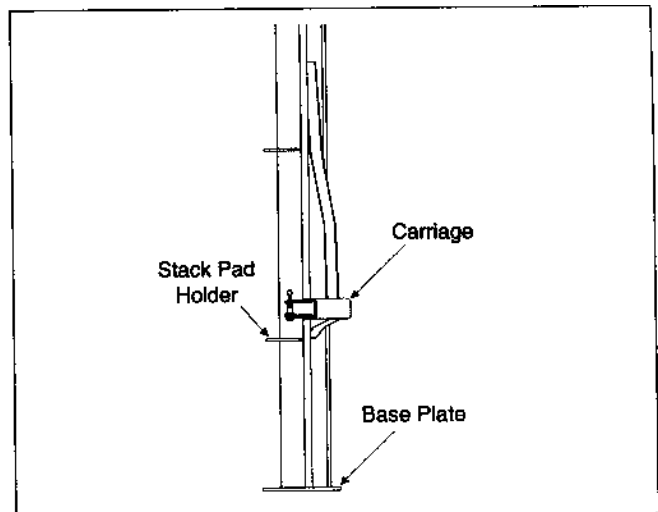

Figure 7 - Raise Carriage
6. To provide clearance for the anchor bolt drill, pull on the safety cable and manually raise the carriage to the height of the stack pad holder (see Figure 7). The safety latch should hold the carriage at this position.